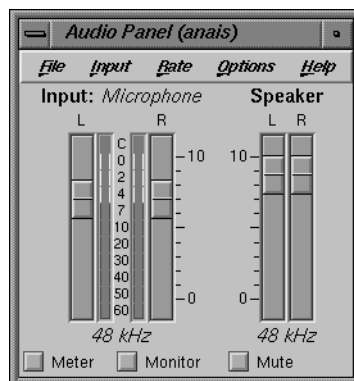

Figure 4-4 Audio Control Panel
1. Choose "Control Panels" from the Find menu in the Toolchest. Double-click the audiopanel icon. The Audio Control panel appears (Figure 4-4).